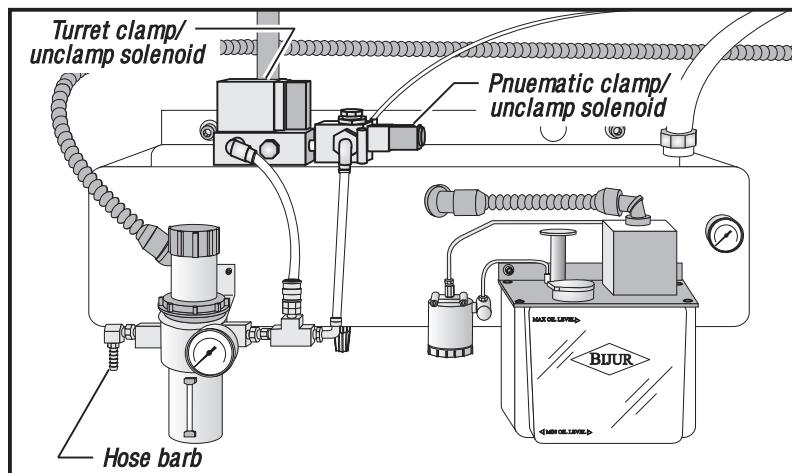

Figure 1-1. Front view of lube/air panel.
2. Disconnect the two air hoses from the pneumatic chuck clamp/unclamp solenoid (see Figure 1-1).
2. Disconnect the three air hoses from the turret clamp/unclamp solenoid (see Figure 1-1).